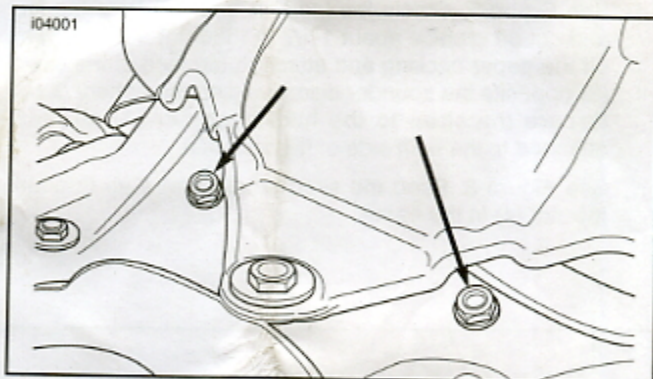

Figure 1. Remove Mud Flap Nuts (VRSC Models)
2. See Figure 1. Use a 10mm socket wrench to remove the splash guard (mud flap) nuts.